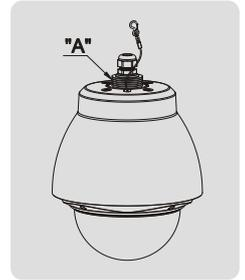

Figure 1
(Figure 1) about 20 times for seal.
2. Wind Teflon Tape around the thread of "A" (Figure 1.) about 20 times for seal.
5. Connect the power connector of 24VAC of the cables to "AC IN" of fan & heater board (23).
7. Fasten the Dome Base on the Screw Spacer (18) using 3 screw (BH M4xL8)